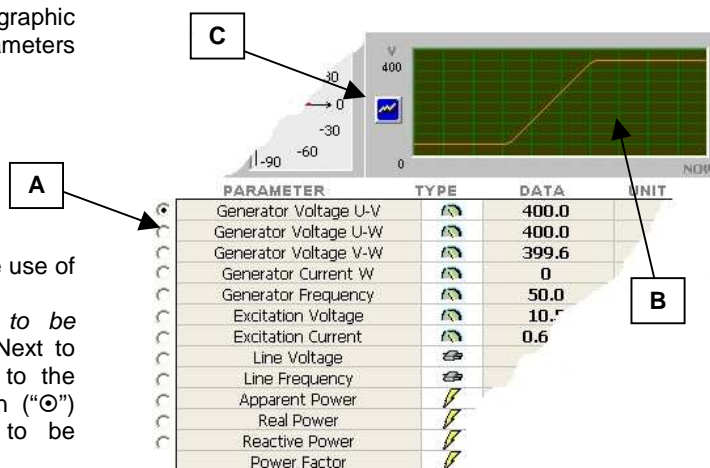

Fig. 5.8.6.a
In Fig. 5.8.6.a an image of the oscillographic indicator relative to the electrical system parameters is shown.
- ⊙ Selection of the electrical parameter to be displayed (A indicator in Fig. 5.8.6.a). Next to each one of the items corresponding to the measured parameters, an option button ("⊙") for the selection of the parameter to be displayed is located.
-  Visualisation of the selected parameter in function of the time (B indicator in Fig. 5.8.6.a).
In the example in the Fig. 5.8.6.a, the time profile of the voltage between the U and V phases, measured during the SOFT-START phase, is shown.